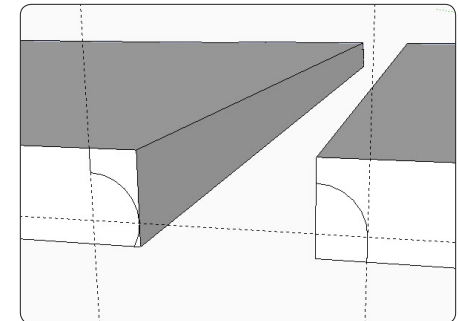

Figure 41. Place short vertical lines over the guidelines to define the shape of each half of the joint.
Step 3 Remove the circles' waste portions, leaving only the roundover and cove shapes on the face of the top and leaf. Place short vertical tangent lines from the arcs to the edges of the leaf and top, as shown in Figure 41.